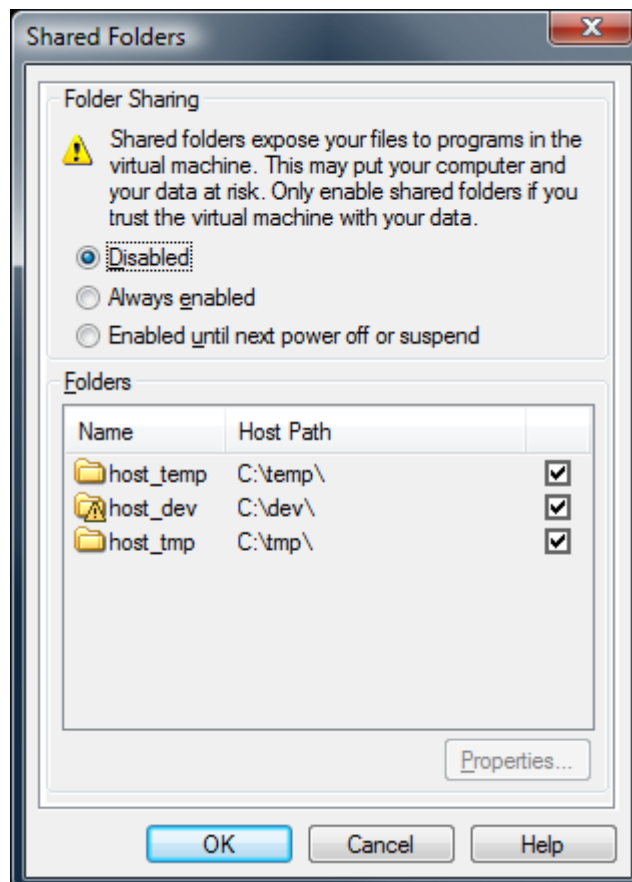

Figure 11 Shared Folders Settings
3. A dialog window will appear, see Figure 11. Select one of the “Always Selected” or “Enabled until next power off or suspend” alternatives.
The folders that have been selected to be shared are listed in the settings dialog. If a folder isn't accessible, for example, not created, this is indicated with an icon with an exclamation point; see the `host_dev` folder in Figure 11.